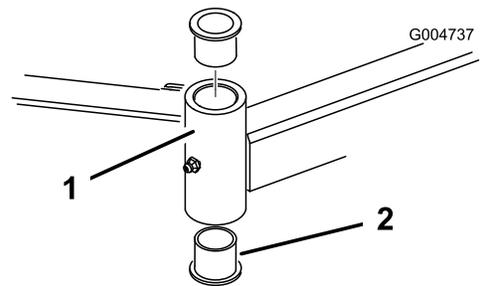

Figure 104
4. Insert a pin punch into the top or bottom of the mounting tube and drive the bushing out of the tube (Figure 104).